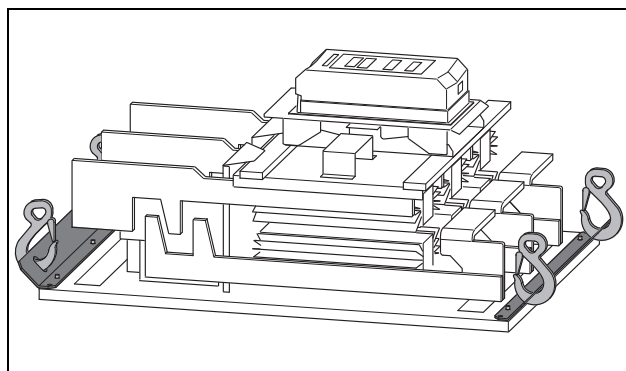

Fig. 23 Horizontal lifting of TSA unit.
3. Attach two lifting hooks at the holes on each bracket mounted on the TSA unit, see Fig. 23.